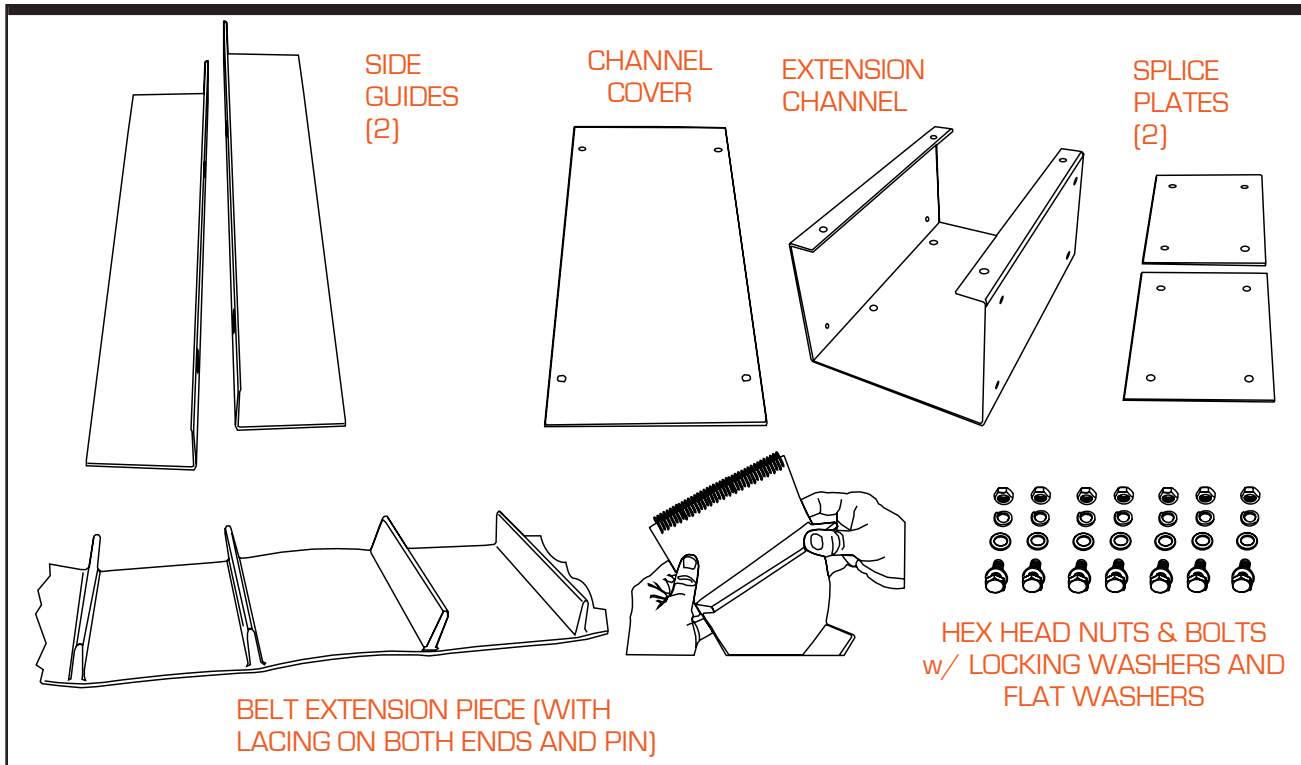

Figure 3-9. Extension Kit for Prefeeder Extension
Step 5—Inventory the Elevator Extension Kit. The extension kit will include the following: Channel Extension (1), Side Guide Extension (2), Splice Plates (2), Channel Cover (1), associated hardware, and Belt Extension (see Figure 3-9 above).
Step 6—Install Extension. Attach the splice plates to the extension channel (inside), hand-tightening the bolts prior to installing the extension on the prefeeder. Then lift the extension up slide it onto the prefeeder neck, securing it with hand-tightened hex head bolts (2). Before tightening the bolts, align the seams of the existing channel and the new extension as closely as possible. Tighten the extension channel bolts and splice plate bolts at this time.
Replace the left hand and right hand exit guides (removed in Step 4) and align the new side guide extensions along the channel, using the holes provided in the channel. Once aligned, attach with the new hardware (Figure 3-9).